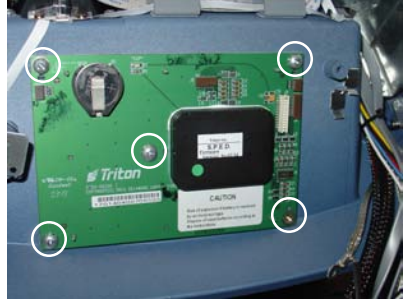

Figure 11. Remove screws and SPED board assy.
9. Remove the remaining screws (Figure 11) on the SPED board and remove the SPED board assembly. The SPED and screws will be replaced with the new EPP and screws provided in kit.